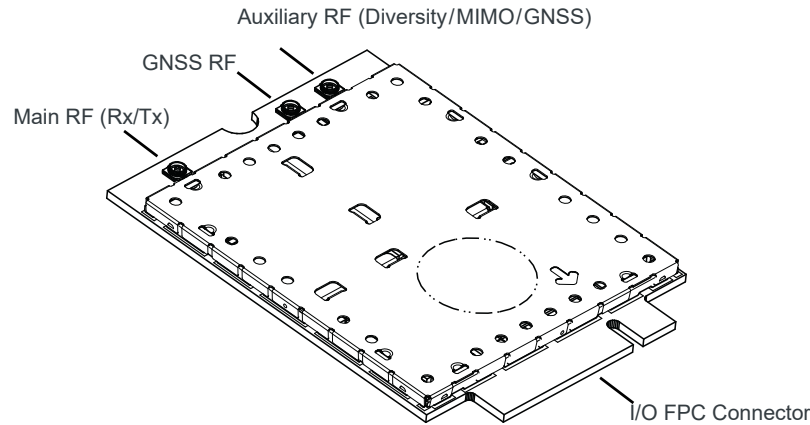

Figure 3-1: Module Connectors
- Connect to system ground using the mounting hole shown in Figure 3-1 on page 38.